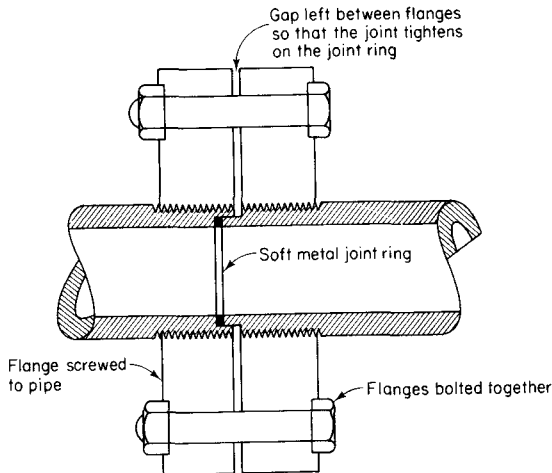

Fig. 4.159 High-pressure flanged joint. (A pressure of about 17 000 kN/m2 may be carried)
1. **Flanged joints.** High-pressure flanged joints are made as shown in Fig. 4.159.